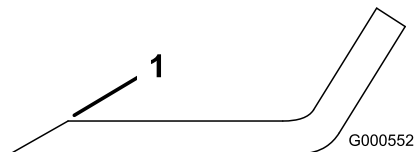

Figure 96
1. Use a file to sharpen the cutting edge at both ends of the blade (Figure 96).